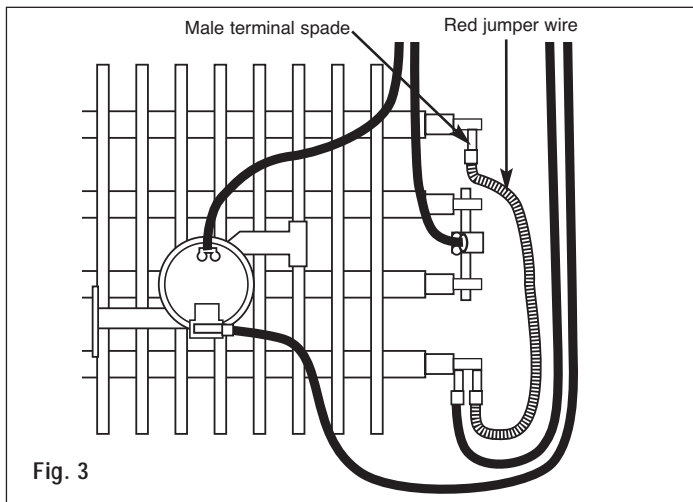

Fig. 3
1. Remove the red jumper wire as shown in Figure 3 and discard.